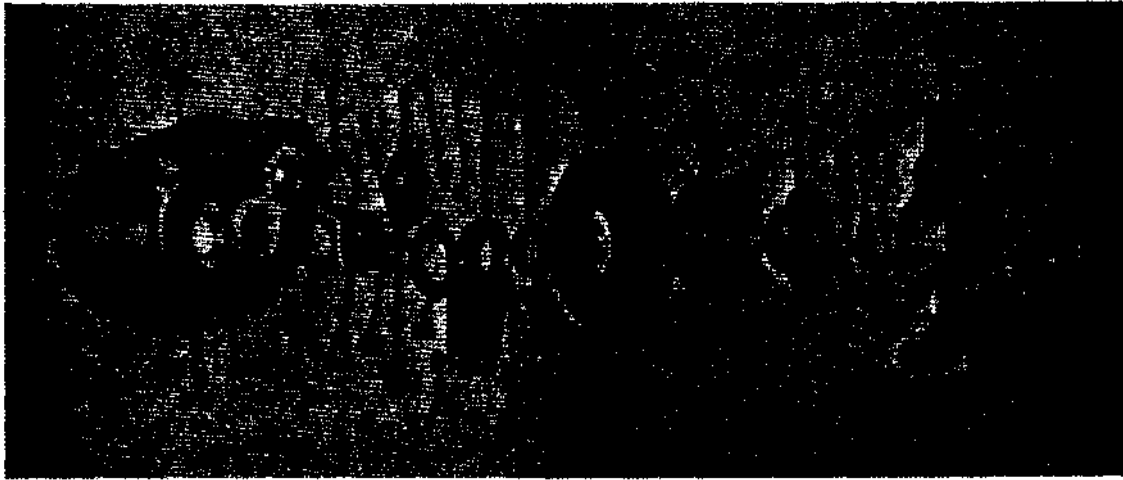

Figure 231. Transfer case, rear covers, and parking brake - exploded view
- (c) Install intermediate shaft rear bearing cover. Position intermediate shaft rear bearing cover (FF, fig. 231) and shims (GG, fig. 231) on case so that oil passages are in alignment. Insert two hex-head bolts (CC, fig. 231), two hex-head bolts (DD, fig. 231), four lockwashers (C, fig. 231), and tighten down with 20 to 25 lb.-ft. torque.
- (d) Install input shaft rear bearing cover. Position input shaft rear bearing cover (D, fig. 231), and new input shaft rear bearing cover gasket (B, fig. 231) on case with care taken to assure alignment of oil passage. Insert six cap screws, lockwashers, and tighten down with 20 to 25 lb.-ft. torque.
- (e) Install rear output shaft bearing cover. Position rear output shaft rear bearing cover (G, fig. 231), and rear output shaft rear bearing shims (BB, fig. 231) on case. Aline so that pin in case enters hole in cover. Insert six cap screws, lockwashers, and tighten down with 20 to 25 lb.-ft. torque.
(3) Assemble the case cover.